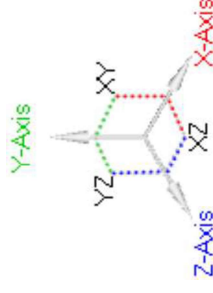

Figure 75
2. Setting the **View to Isometric** is an easy way to identify where and how you want to align your model, **Figure 75** illustrates the position of system planes relative to the **Isometric** view.